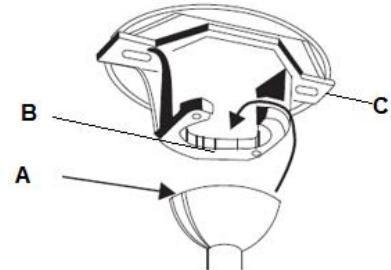

Fig. 8
Lift the fan assembly onto the mounting bracket. Ensure the registration slot (A) of the hanger ball is positioned on the stopper (B) of the mounting bracket (C) to prevent the fan from rotating when in operation. **Fig. 8**